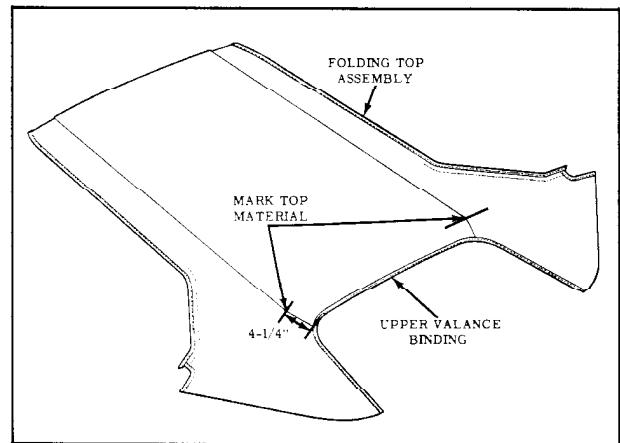

Fig. 17-37 Marking Top Material
25. Using a pencil, mark top material (mark should be approximately 1/2" in length) at deck seam 4-1/4" from edge of top material upper valance binding. (Fig. 17-37)